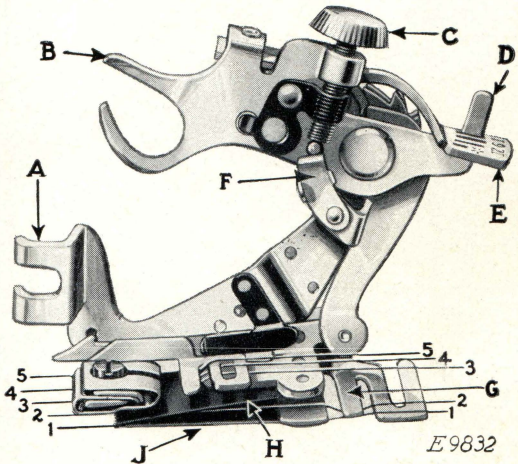
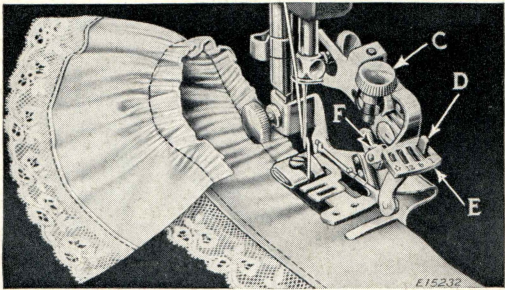
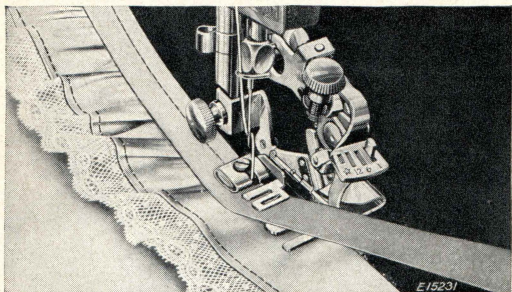
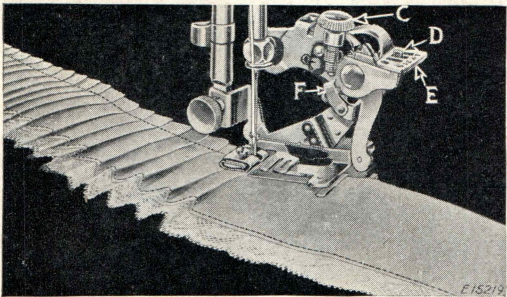

FIG. 47. THE RUFFLER AND ITS PARTS
FIG. 48
FIG. 50
FIG. 52
Lines 1, 2, 3, 4 and 5 shown in Fig. 47 indicate where the material is to be placed for various operations as follows:
Refer to Fig. 47 when inserting the material in the ruffler.
(SEE REFERENCES IN FIG. 47)
Raise the needle bar to its highest position and remove the presser foot. Attach the ruffler foot (A, Fig. 47) to the presser bar by means of the thumb screw, at the same time placing the fork arm (B, Fig. 47) astride the needle clamp as shown in Fig. 48.
The adjusting finger (F, Fig. 48) is not intended for gathering and should be moved forward or away from the needle, as shown in Fig. 48.
Raise the adjusting lever (E, Fig. 48) and move it to the left so that the projection (D, Fig. 48) will enter the slot marked "1" in the adjusting lever (E) when the lever is released. The ruffling blade will then move forward and back once at every stitch. Insert the material to be ruffled between the two blue blades, following the line 2 in Fig. 47. Draw the material slightly back of the needle, lower the presser bar and commence to sew.
To make fine gathering, shorten the stroke of the ruffling blade by turning the adjusting screw (C, Fig. 48) upward; also shorten the stitch. To make full gathering, lengthen the stroke of the ruffling blade by turning the adjusting screw (C) downward; also lengthen the stitch. By varying these adjustments, many pleasing varieties of work can be accomplished.
2, in Fig. 47. Place the garment to which the ruffle is to be attached, under the separator blade, following the line 1, in Fig. 47. Proceed the same as for gathering.
Insert the material to be ruffled between the two blue blades, following the line 2, in Fig. 47. Place the garment to which the ruffle is to be attached, under the separator blade, following the line 1, in Fig. 47. Place the material for the facing over the upper blue blade, as shown in Fig. 50, following the line 3, in Fig. 47. The facing may be straight or bias material. If the facing is to be on the right side of the garment, place the garment and the
Insert the material to be ruffled between the two blue blades, following the line 2, in Fig. 47. This
The material for piping must measure about $\frac{1}{4}$ inch wide when folded in the center and is usually cut on the bias. Place the piping material in the ruffler, following the line 4, in Fig. 47, with the folded edge of the piping to the right. The material to which the piping and ruffling are to be sewn should be folded on the edge and inserted in the ruffler, following the line 5, in Fig. 47.
Raise the adjusting lever (E, Fig. 52) and move it to the right so that the projection (D, Fig. 52)
will enter the slot marked "6" in the adjusting lever when the lever is released. The ruffling blade will then move forward and back once at every six stitches. To adjust the ruffling blade to make a plait once at every twelve stitches, place the adjusting lever (E, Fig. 52) so that the projection (D) enters the slot marked "12" in the adjusting lever. Insert the material to be plaited between the two blue blades, following the line (2, Fig. 47). The size or width of plaits is regulated by the adjusting screw
(C, Fig. 52) and the adjusting finger (F, Fig. 52). To make a wider plait, move the adjusting finger (F) back or toward the needle and turn the adjusting screw (C) downward. To make a smaller plait, turn the adjusting screw (C) upward. The distance between plaits is regulated by the length of stitch.